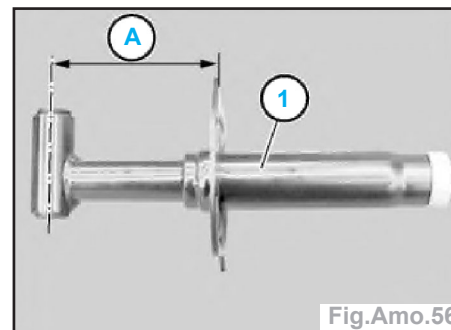

Fig.Amo.56
- Contrôler la cote (A) (Fig.Amo.56) : (A) = 109,0 ± 1,0 mm.